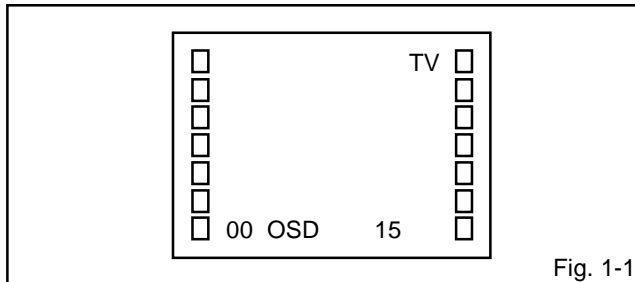

Fig. 1-1
Press the VOL. DOWN button on the set and the Channel button (9) on the remote control for more than 1 second to appear the adjustment mode on the screen as shown in Fig. 1-1.
3. Activate the adjustment mode display of Fig. 1-1 and press the channel button (02) on the remote control to select "RF AGC DELAY".
3. Activate the adjustment mode display of Fig. 1-1 and press the channel button (01) on the remote control to select "CUT OFF".
4. Activate the adjustment mode display of Fig. 1-1 and press the channel button (10) on the remote control to select "R.BIAS".
3. Activate the adjustment mode display of Fig. 1-1 and press the channel button (16) on the remote control to select "TINT".